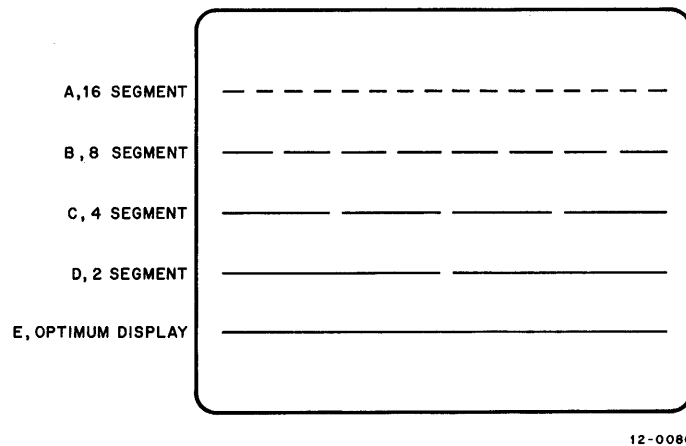
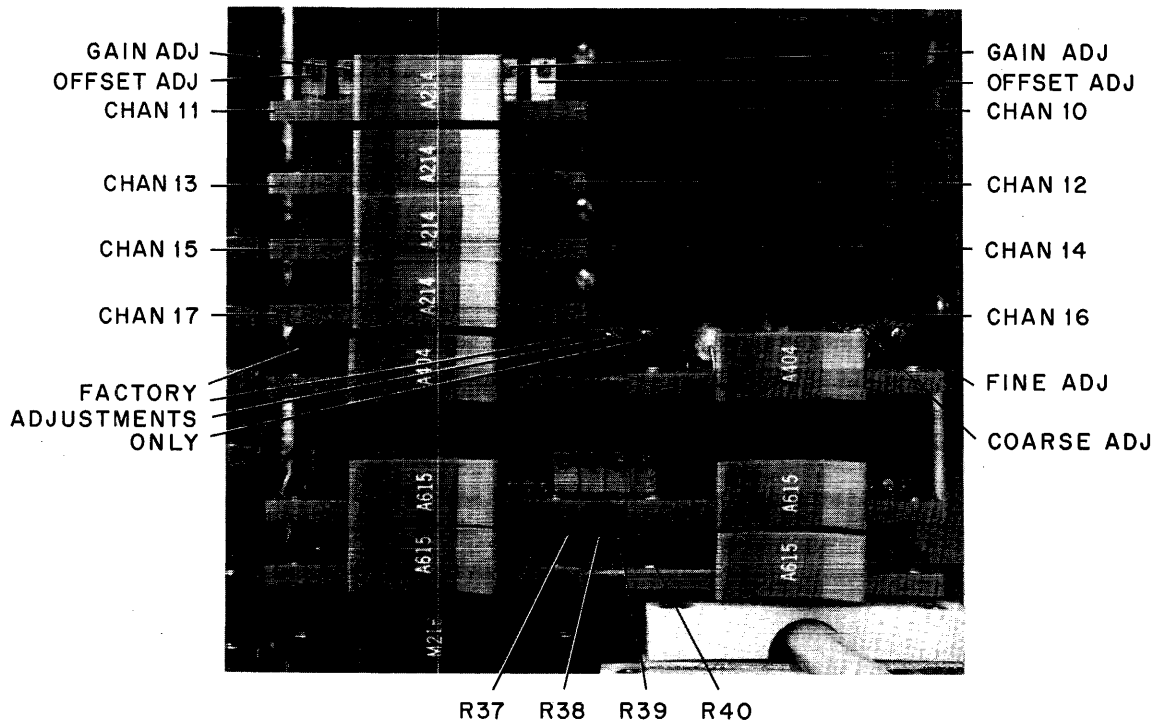

Figure 3-20 D/A Line Display
Figure 3-21 Sample and Hold Adjustments
7	A straight line will be displayed. If the line is of uniform brightness and continues from one side of the screen to the other without gaps, refer to Step 2 of this procedure. If the line displayed appears as E of Figure 3-20, refer to Step 1 of Adjustment Procedure, Paragraph 3.8.2.
The four most significant bits of Module A615, Digital-to-Analog Converter, are adjustable (R37 through R40 in Figure 3-21); bit 3 being the most significant, and bit 6 being the least significant. A misadjusted A615 displays a line either with gaps or overlays, or a combination of both. Figure 3-20 provides an example of all four significant bits being set too short. Data bit 3, being too short, divides the line into two equal halves (D). Data bit 5 divides the line into 8 segments (B) and, likewise, bit 6 divides the line into 16 equal segments (A).
| 1    | The A615 is adjusted, starting with bit 6, the least significant bit, and adjusting toward the most significant bit, bit 3. Note the 16 segments of A of Figure 3-20. Adjust potentiometer R37 of Module A615, locations E and F37 (bottom of A615), until only eight segments are displayed as shown in B of Figure 3-20. |
| 2    | Adjust potentiometer R38 until only four segments are displayed, as shown in C of Figure 3-20.   |
| 3    | Adjust potentiometer R39 until only two segments are displayed, as shown in D of Figure 3-20.  |
Do not adjust any other controls except those specifically mentioned in Paragraph 3.8.7 and shown in Figure 3-21. If compensating trimpots located on Module A404 are disturbed, the module must be returned to DEC for proper calibration.
7	While monitoring Channel 17, adjust the COARSE ADJ (see Figure 3-21) Module A404 (locations E and F34) until Channel 17 displays 000 (see Figure 3-21). Then adjust the FINE ADJ until the sign of the Channel 17 000 display oscillates between + and -. This oscillation indicates proper adjustment.
5	Monitor Channel 10, and adjust the right OFFSET potentiometer of Module A214, at location E30, for a -000. Turning the trimpot (shown in Figure 3-21) CCW increases the number.